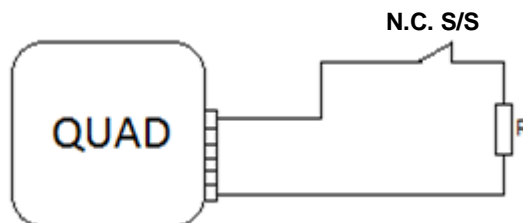

Figure 4. Normally closed switch/sensor. Resistor in series
- **Normally Closed (N.C.) Switch / Sensor:** the circuit remains typically closed and is only opened in the event of an interruption or a detection in the sensor. The selected resistor should be connected to the circuit line in series, and as closer as possible to the switch/sensor, preferably in touch with its terminals and hardly accessible from outside. See Figure 4.